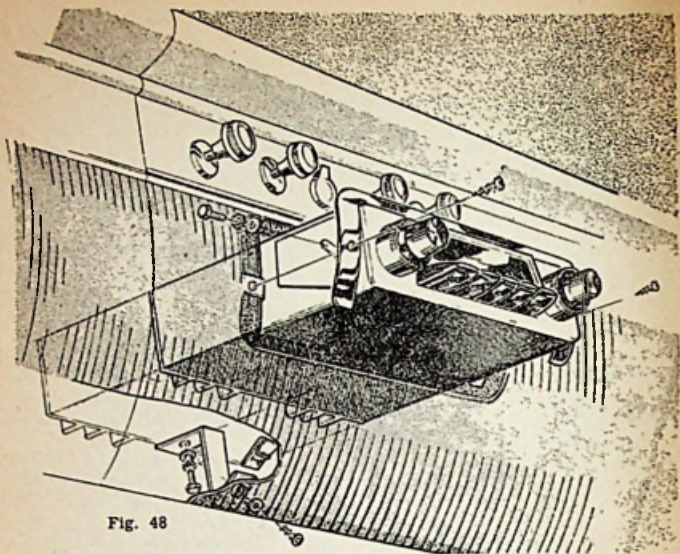

Fig. 48
- (1) Carefully lever blanking panel away from centre dash and remove patent fixings from stud holes.
- (2) Attach smaller spire nuts to side flanges as shown in Fig. 48.
- (3) Attach mask to radio unit - do not fully tighten fixings - See Fig. 48.
- (4) Attach larger spire nuts to bracket foot and secure bracket to radio unit rear undersurface fixing as shown in Fig. 48.
- (5) Offer assembly into aperture as shown and dress mask against dash to best advantage. Transfer rear bracket position to undersurface of dash flange and mark off a point in centre line of bracket and 1" from edge of dash flange.
- (6) Carefully remove assembly from dash and fully tighten fixings.
- (7) Drill a $\frac{1}{4}$ " dia. hole in position marked on dash flange.
- (8) Connect aerial, loudspeaker and power supply leads to radio unit - passing leads out through aperture in dash.
- (9) Aerial Trimmer. Tune to a weak signal around 250 metres, adjust aerial trimmer for maximum volume.
- (10) Mount assembly in dash-securing mask to fascia with chrome drive screws supplied. Attach rear bracket to dash flange using No. 12 drive screw provided.